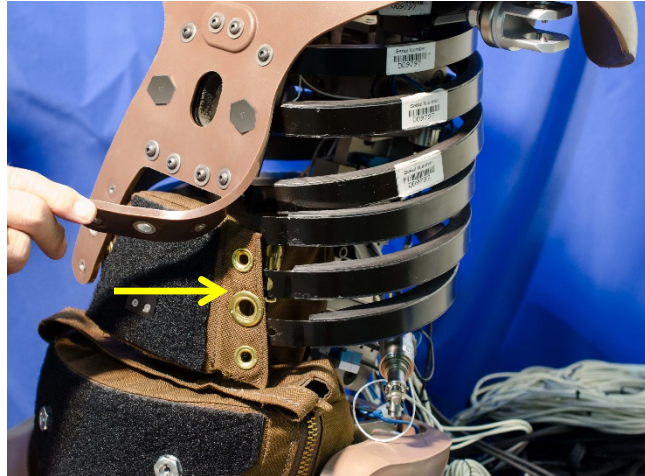

Figure 6-56. Install Rib #5 at sternum
6.2.2.47 To attach Rib #5, install M5 clip nuts on both rib ends. The top grommet of the Upper Abdomen Bag should be between the bib and the rib. Loosely secure the rib to the bib using M5 x 15 x 1.2 flat washers and M5 x 0.8 x 20 BHCS (Figure 6-56).